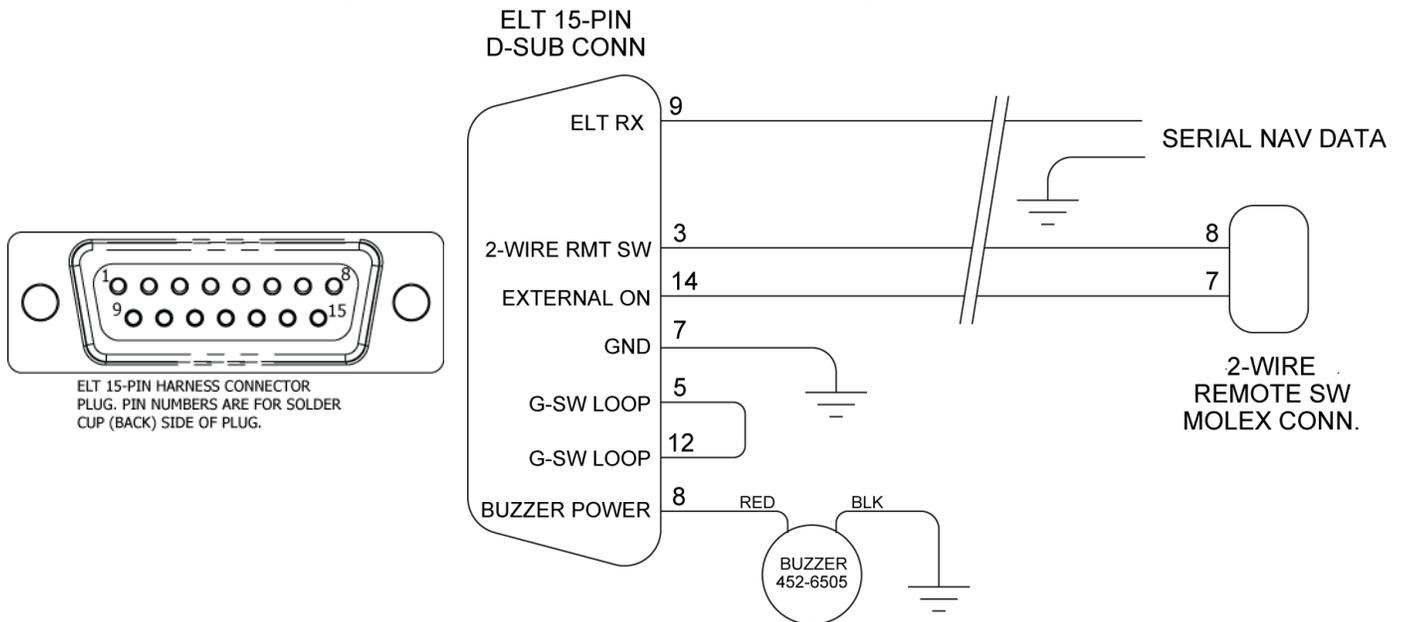
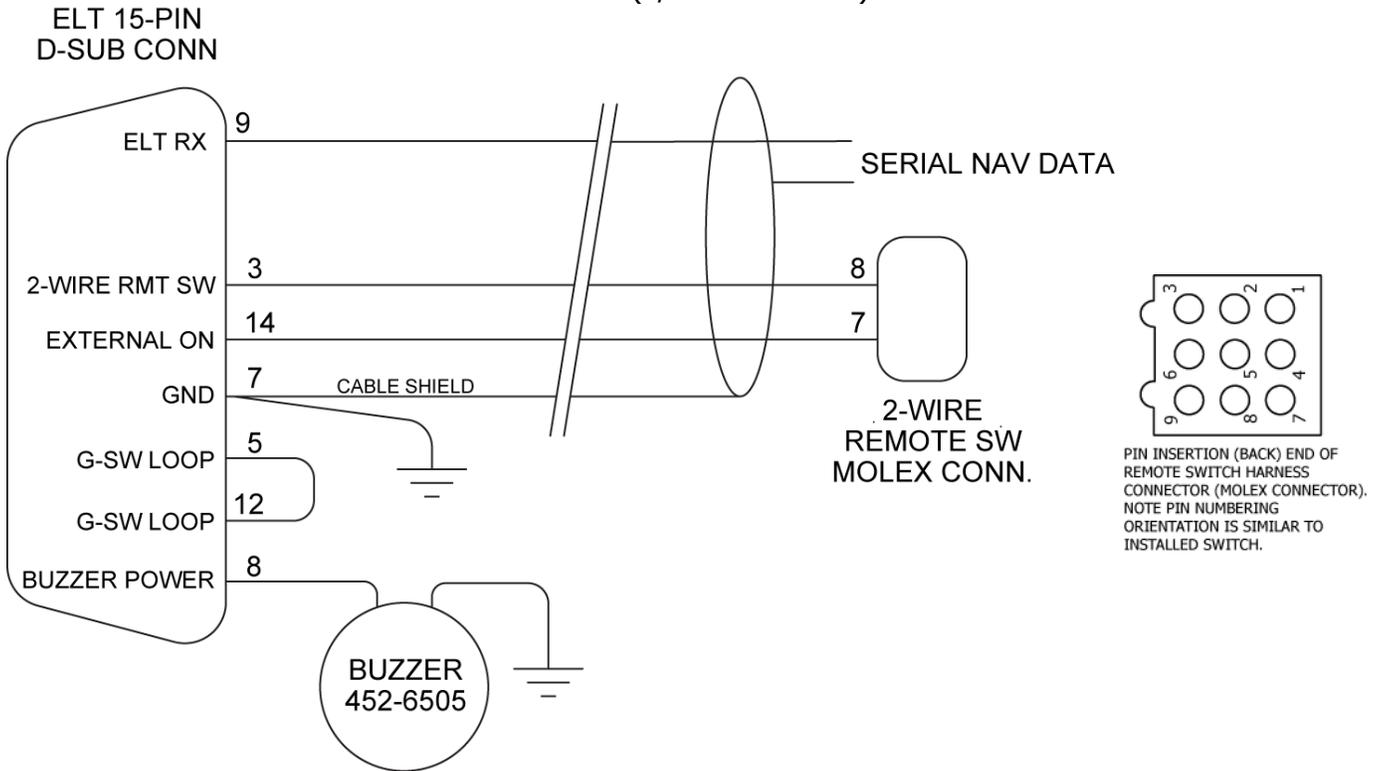

Figure 17 Typical 2-Wire Installation for Unshielded Harness
Figure 18 Typical 2-Wire Installation for Shielded Harness
- 5) Buzzer ground conductor may be soldered to the cable shield or ground pin for composite airframe installations (see Figure 18 Typical 2-Wire Installation for Shielded Harness on page 45 for composite airframe wiring diagram).
- 1) Insert the wiring pins into the Molex 9-pin cockpit remote switch plug. Refer to Figure 17 Typical 2-Wire Installation for Unshielded Harness on page 44, Figure 18 Typical 2-Wire Installation for Shielded Harness on page 45.
- 1) Connect the ground wires to the airframe as described in AC 43.13-1, Chapter 11, § 15, as applicable. Refer to Figure 17 Typical 2-Wire Installation for Unshielded Harness on page 44, Figure 18 Typical 2-Wire Installation for Shielded Harness on page 45 as appropriate.